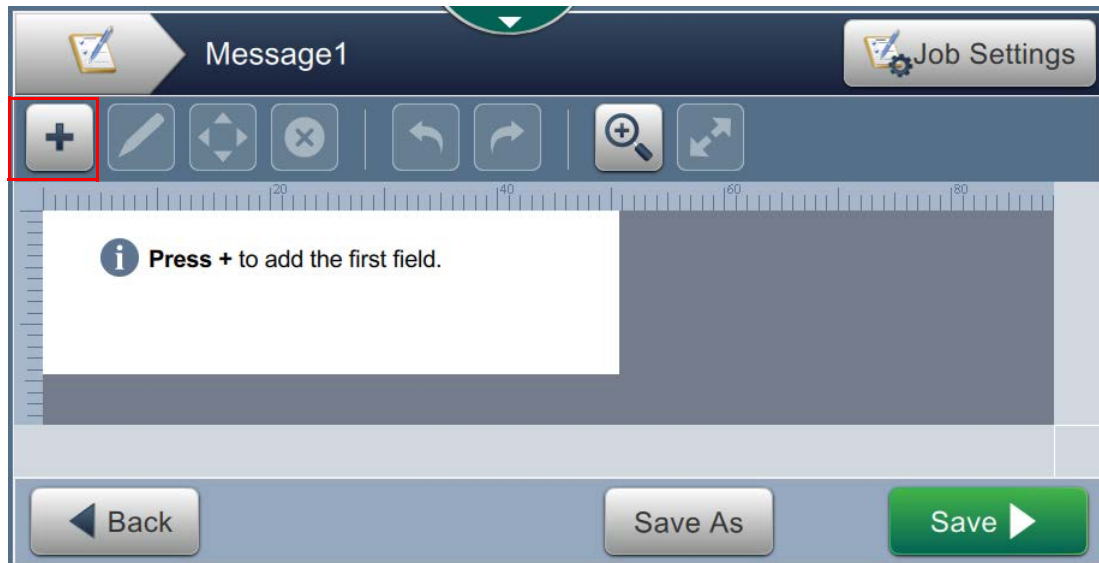

Figure 3-27: Job Editor Screen
4. Touch the '+' button on the Job Editor screen and select the required options to insert fields as shown in Figure 3-27.